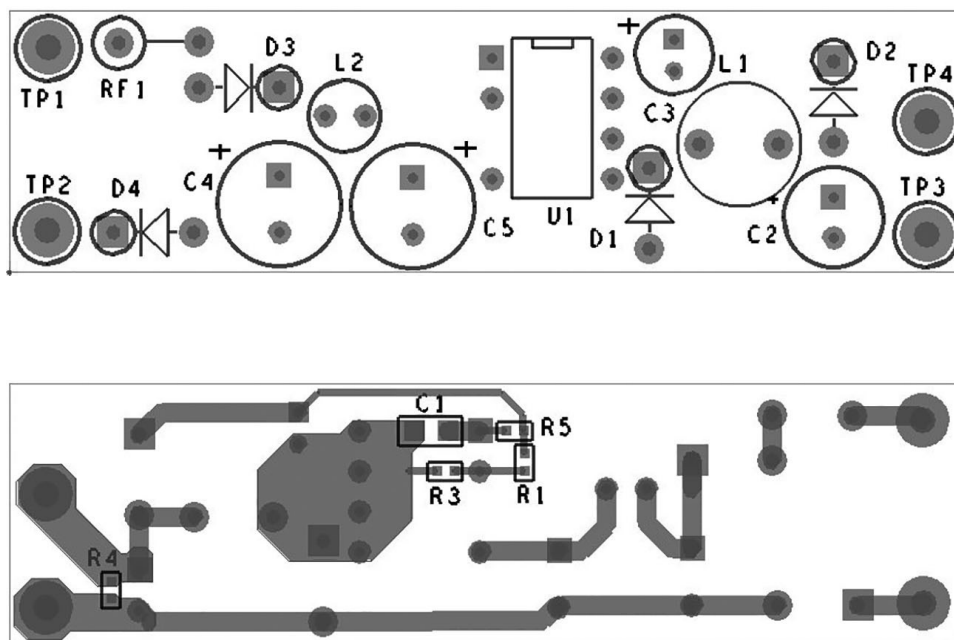

Figure 9a. Recommended Printed Circuit Layout for LinkSwitch-TN2 using P Package.
Figures 9a, 9b and 9c are printed circuit board layout design examples for the circuit schematic shown in Figure 8. The loop formed between the LinkSwitch-TN2, inductor (L1), freewheeling diode (D1), and output capacitor (C2) should be kept as small as possible. The BYPASS pin capacitor C1 should be located physically close to the SOURCE (S) and BYPASS (BP) pins. To minimize direct coupling from switching nodes, the LinkSwitch-TN2 should be placed away from AC input lines. It may be advantageous to place capacitors C4 and C5 in-between LinkSwitch-TN2 and the AC input. The second rectifier diode D4 is optional, but may be included for better EMI performance and higher line surge withstand capability.